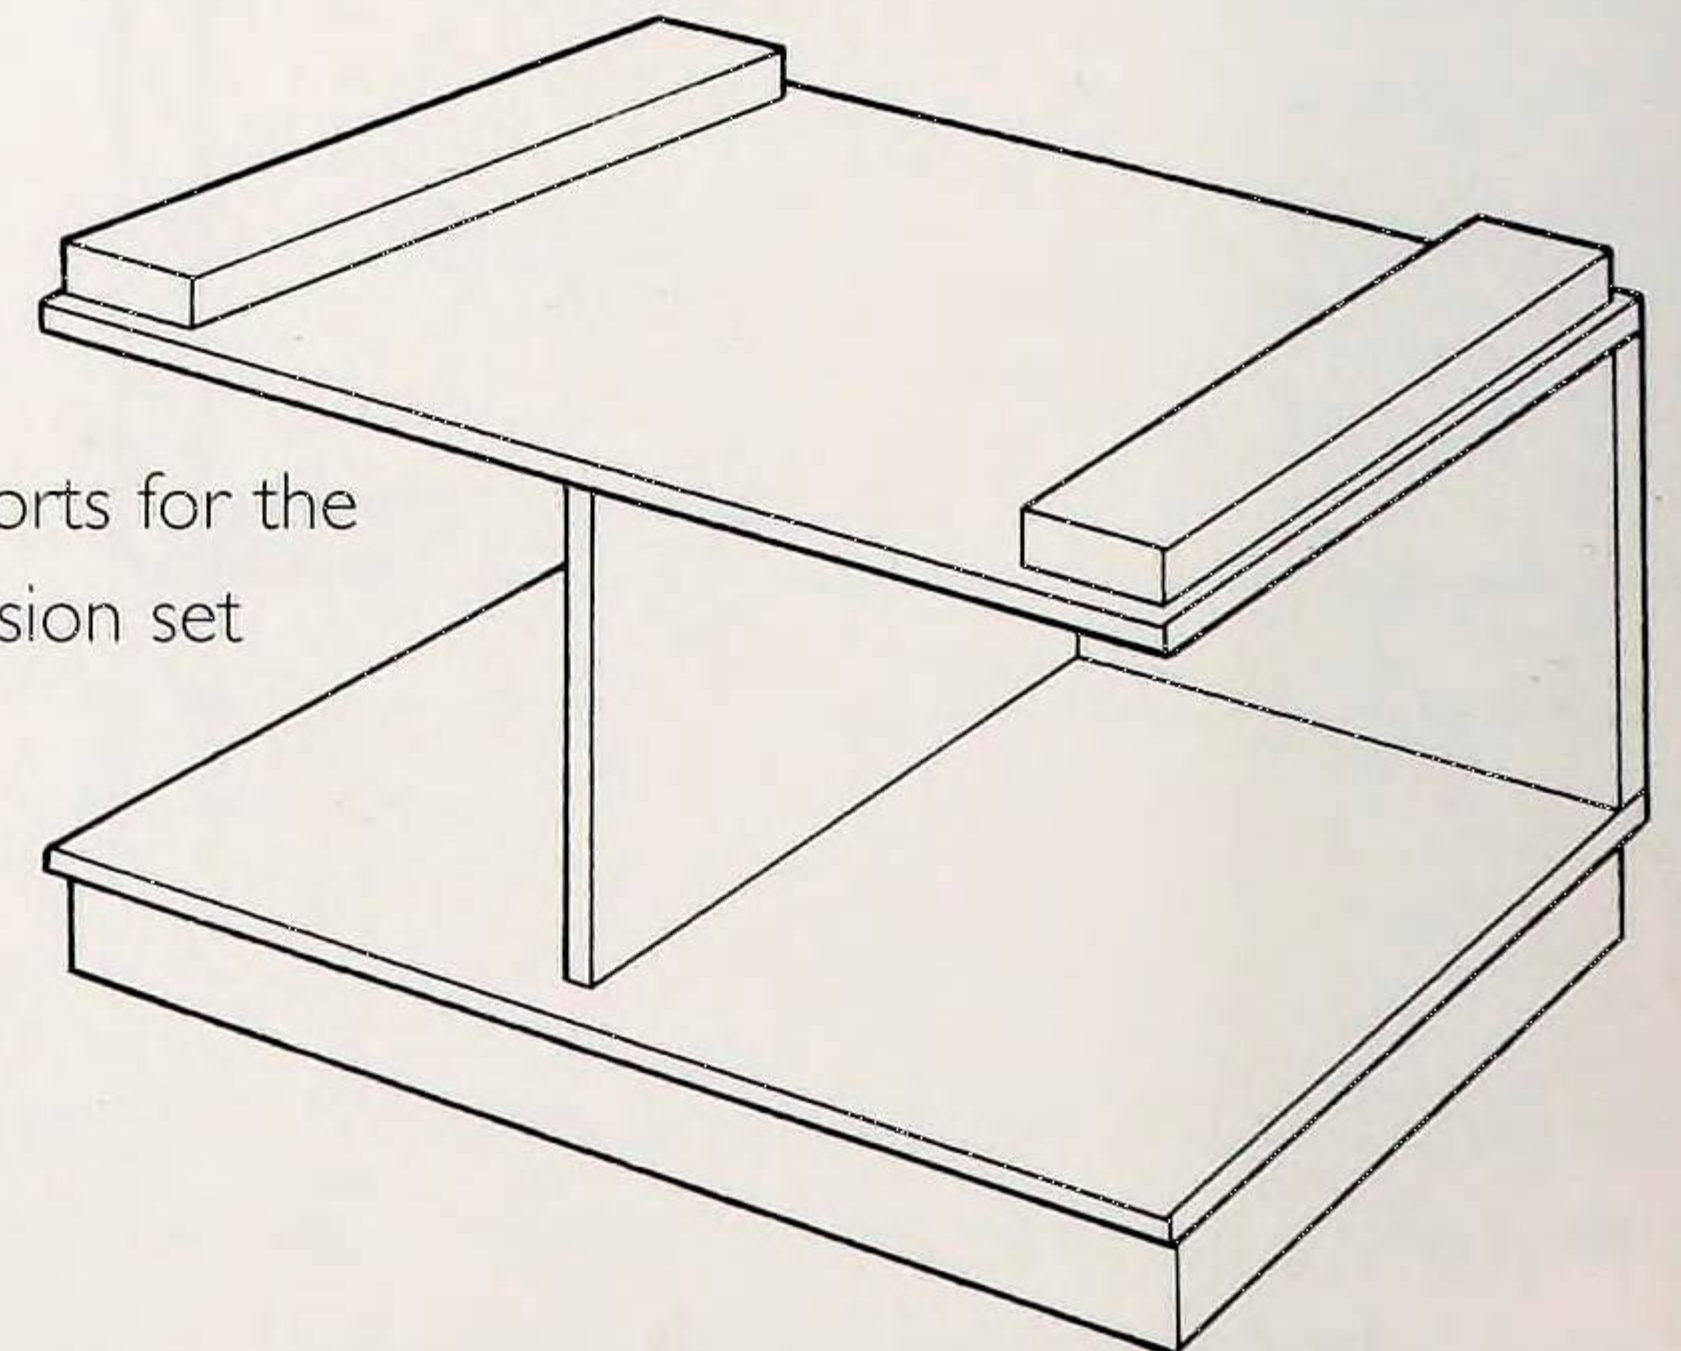
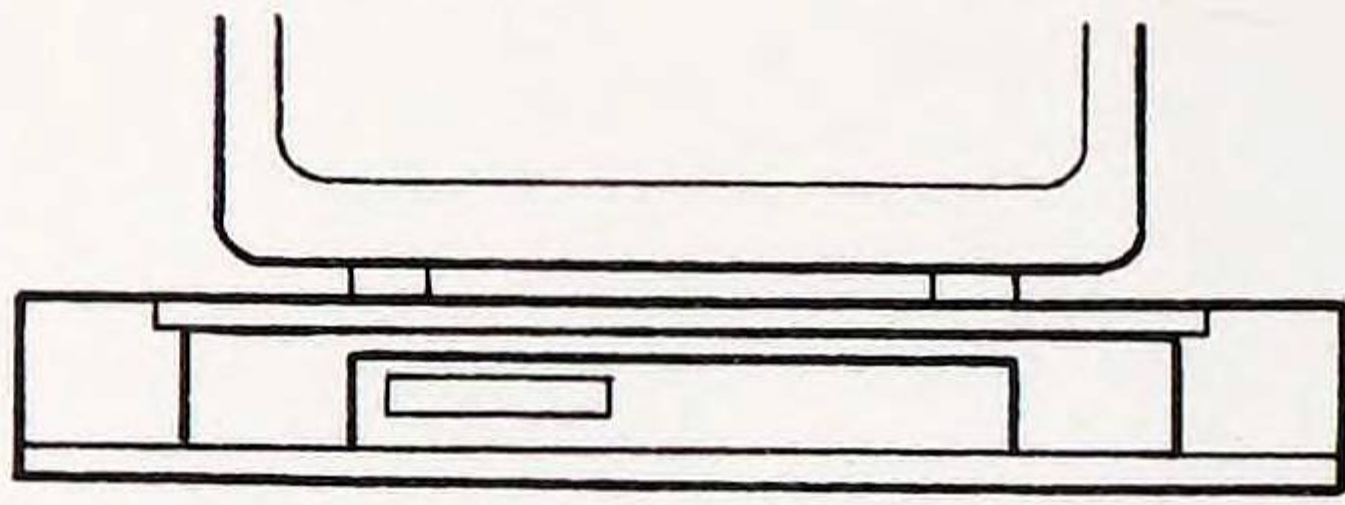

Fig. 3a Supports for the television set
Fig. 3b A shelf could be added between the television and the video
3. The supports for the television should then be added (Fig. 3a). Before doing this check that the feet or support pads on the television will not sit directly on the video machine. If this does happen, you will need to add a shelf between the television and the video (Fig. 3b).